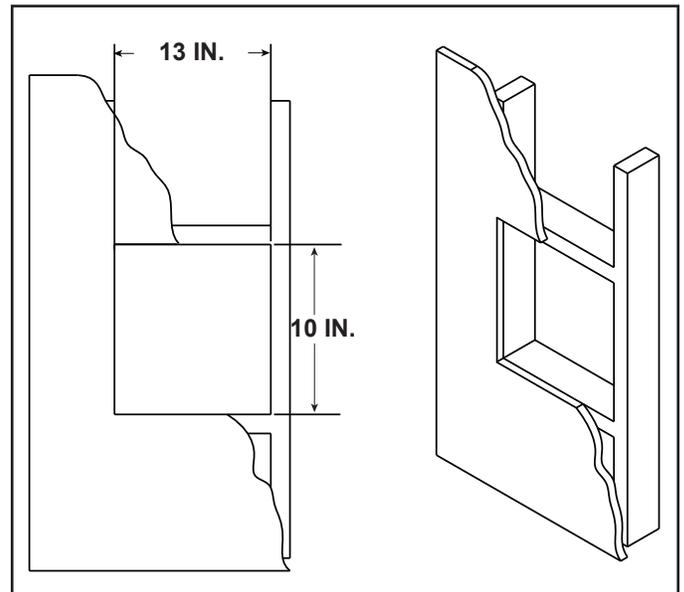

Figure 3.2
1. Construct a framework as shown in Figure 3.2. Framework material should be the same dimensions as the material used for the wall framing. The dimensions of the box must be 10 inches high by 13 inches wide.
2. Cut a 10 inch high by 13 inch wide opening into the exterior of the structure. Stay inside of the newly installed framing as shown in Figure 3.2.